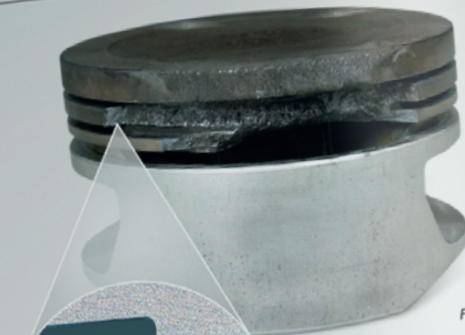

Fig. 1
- Ring land fracture on one side of the piston between the first and second compression ring (Fig. 1).